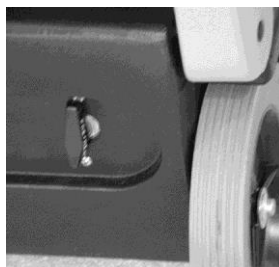

Fig. 5
1. Activate vacuum, pump, and heater switches and turn preheat valve to "clean" position (Figure 5).